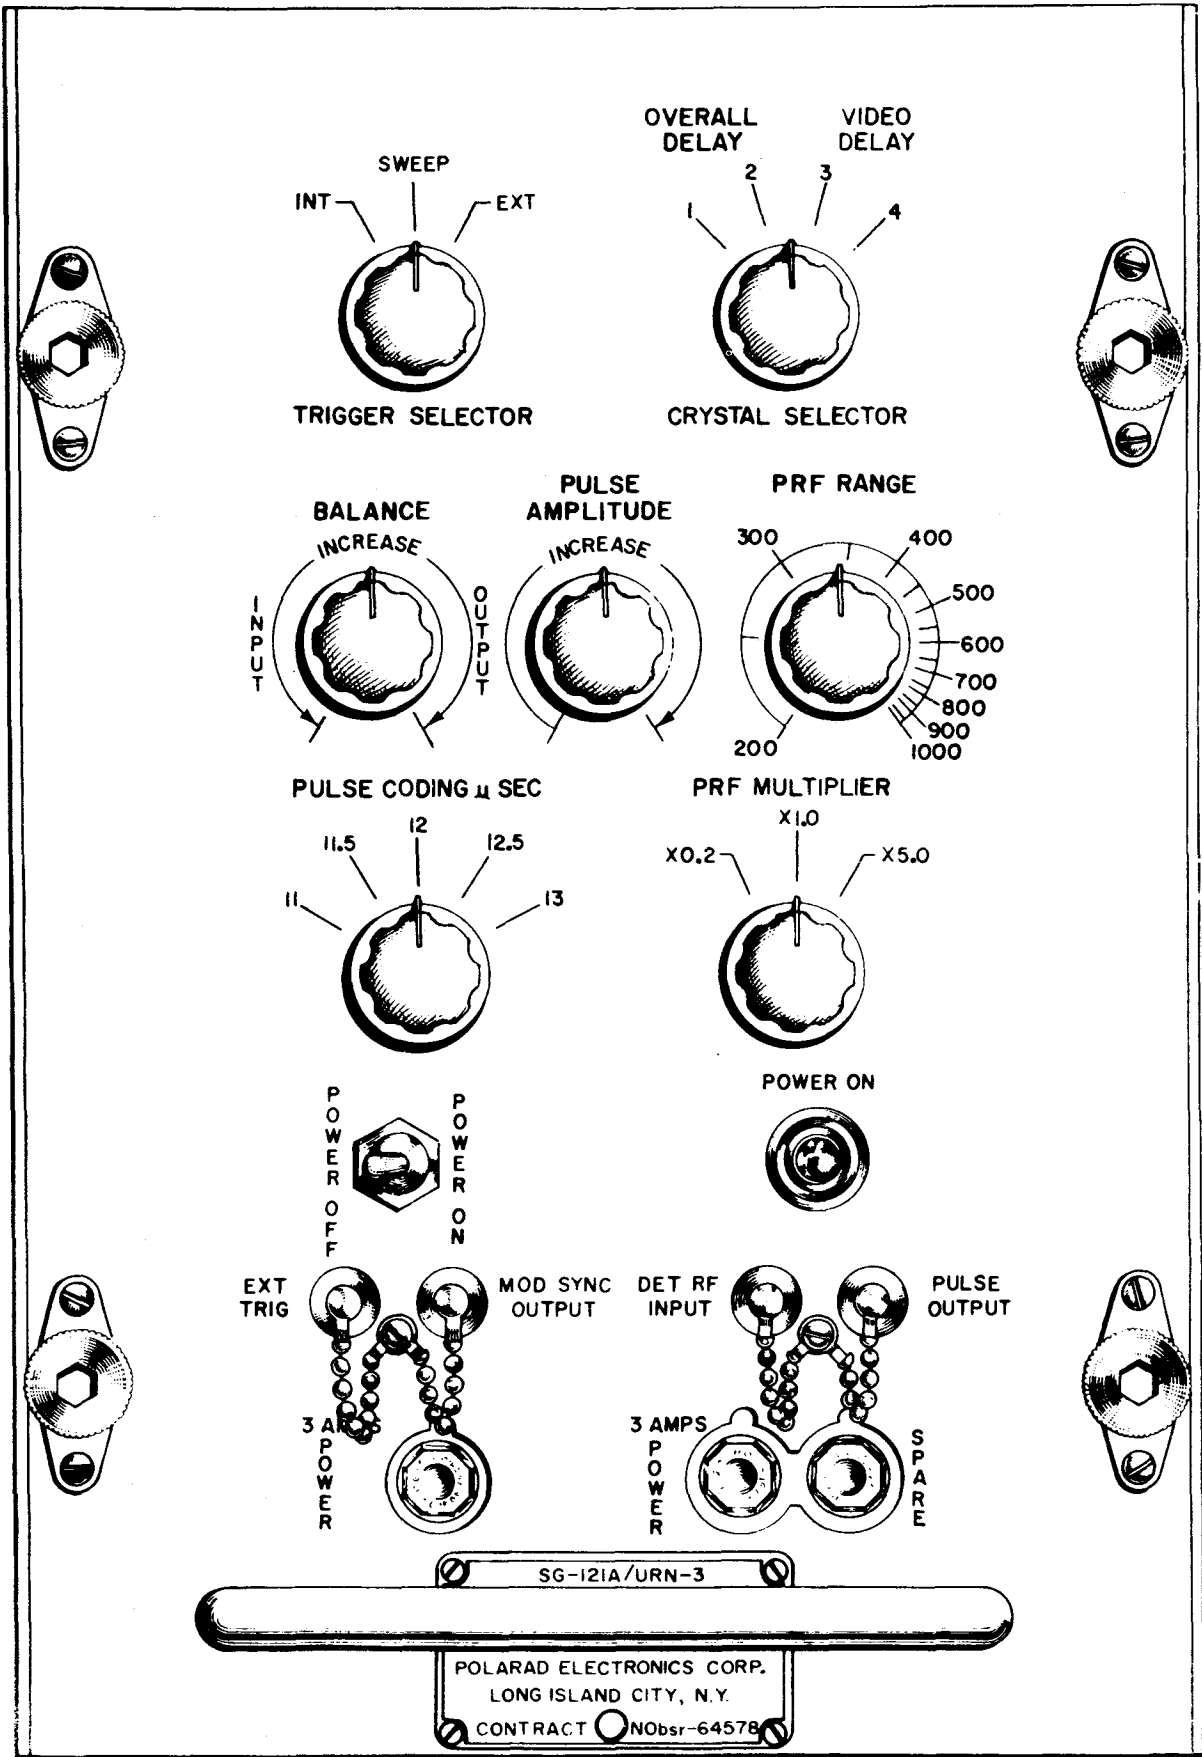

Figure 3-15. Pulse Sweep Generator SG-121A/URN-3, Front Panel View
Before performing step 12, energize the Pulse-Sweep Generator SG-121A/URN-3 (figure 3-15) and allow it to warm up for at least 2 minutes.
Step 13. Adjust PULSE AMPLITUDE control, located on the SG-121A/URN-3 to obtain a midscale reading (100) on OUTPUT LEVEL INDICATOR (figure 3-15).